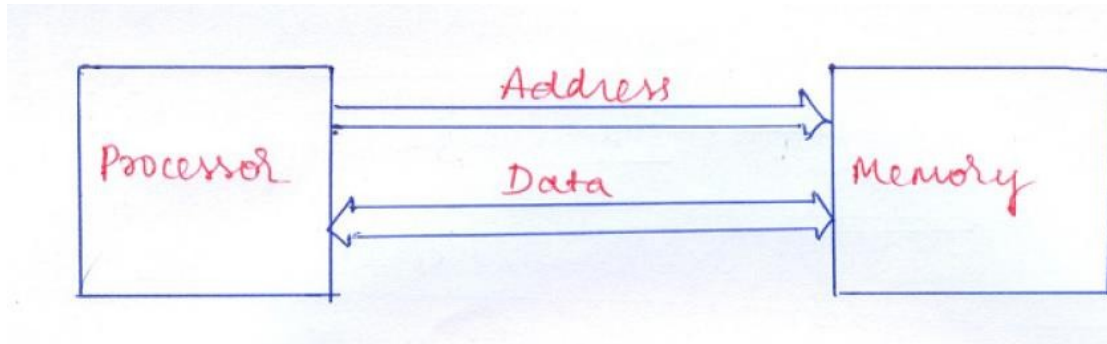

Fig 2.9 Von Neumann Architecture
- Conventional microprocessors use Von Neumann architecture for memory management wherein the same memory is used to store both the program and data (Fig 2.9).